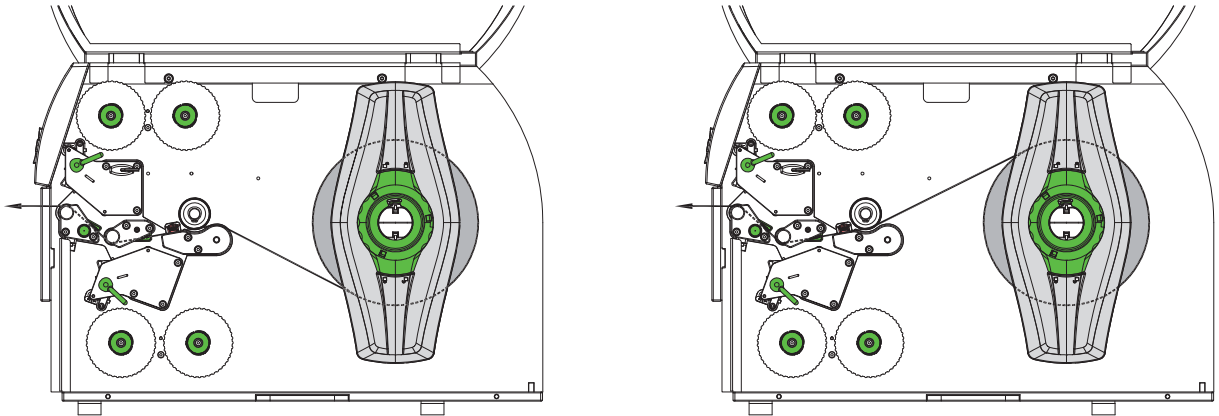
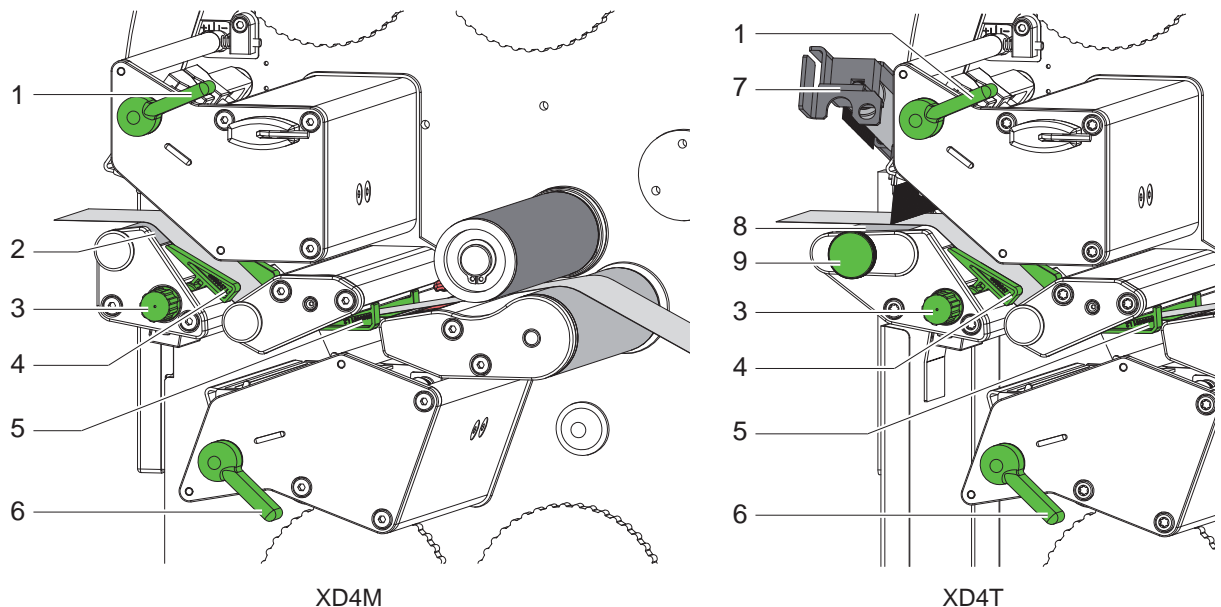

Fig. 9 Material feed path
Fig. 10 Inserting a media strip into the print mechanics
1. Unroll a longer material strip of approx. 50 cm. Guide the media strip to the print mechanics as shown in figure 9.
2. XD4T only : Pull the detent pin (9). The pressing roller system (7) will swing upwards.
3. Turn lever (1) counterclockwise and lever (6) clockwise to lift both printheads.
4. Move guides (4,5) apart with the knob (3) until the media can pass between them.
5. Guide media strip through the print mechanics as shown in figure 10 to the upper print roller (2 / XD4M) respectively to the pinch roller (8 / XD4T) and place the strip between the guides (4,5).
6. Move guides against the edges of the material by turning the knob (3).
8. XD4T only : Pull the detent pin (9). Push the pressing roller system (7) downwards and lock it with the detent pin.